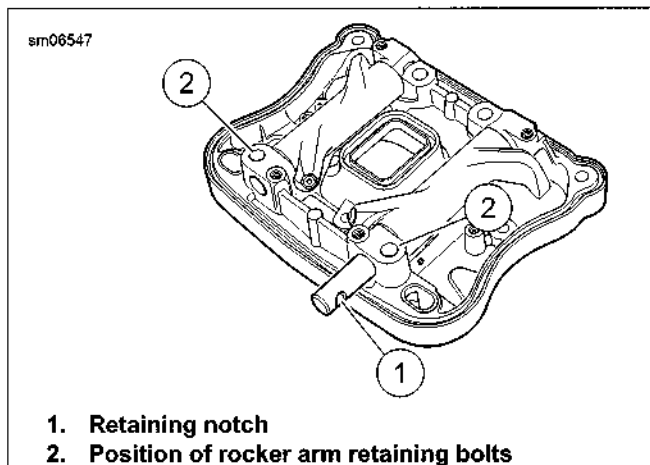

Figure 3-17. Removing Rocker Arm Shafts (typical)
9. See Figure 3-17. Remove rocker arm shafts by tapping them out using a hammer and a soft metal punch.